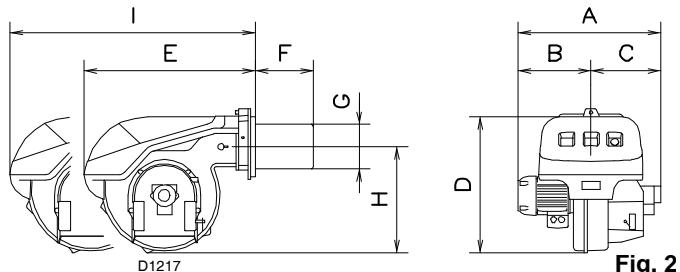

Fig. 2
4.3.2 Ingombro (Fig. 2) - misure indicative